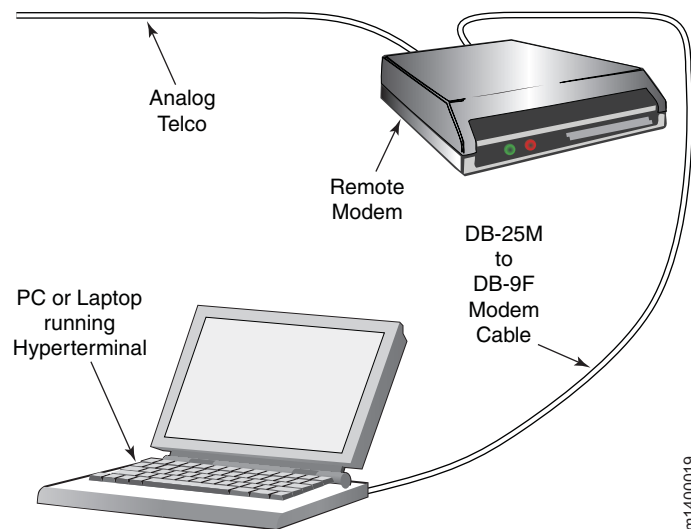

Figure 50. Remote modem setup
1. Connect the remote modem to the workstation, as shown in Figure 50.